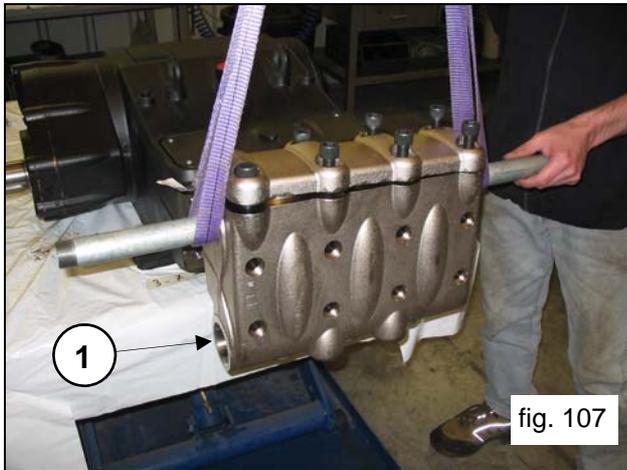
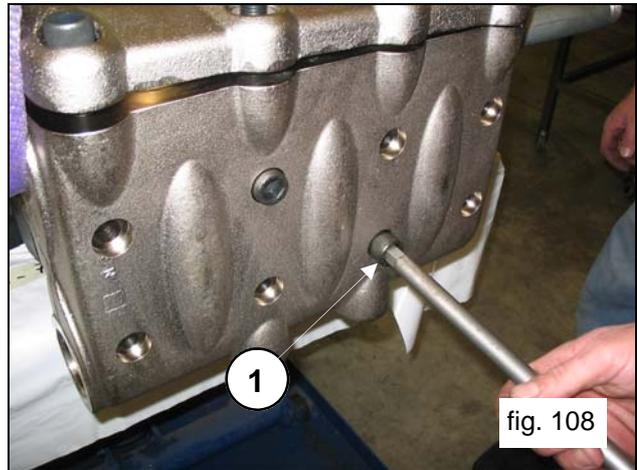

fig. 107
fig. 108
Assemble the head on the pump casing (pos. ①, fig.107) being careful not to bump against the pistons, and fasten the 8 M16x180 screws (pos. ①, fig.108).
**Fasten the M16x180 screws starting from the 4 internal screws cross-wise (see fig.107), and then proceed with the 4 external screws, again fastening cross-wise.**